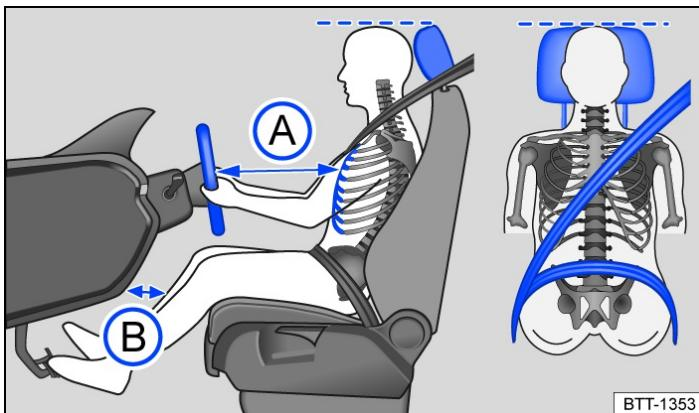

Fig. 1 Illustration: correct distance between the driver and the steering wheel, correct seat belt routing and correct head restraint adjustment.
- Adjust the head restraint so that its upper edge is at the same height as the top of the head, but not lower than eye level. Position the back of your head as close to the head restraint as possible at all times → *Fig. 1*.